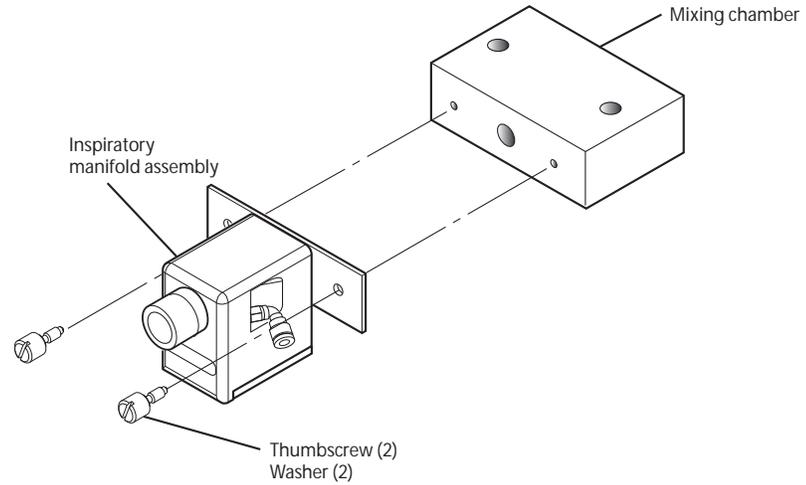

Figure 4-25
- 4 Loosen the two thumbscrews (see Figure 4-25) and detach the mixer from the manifold